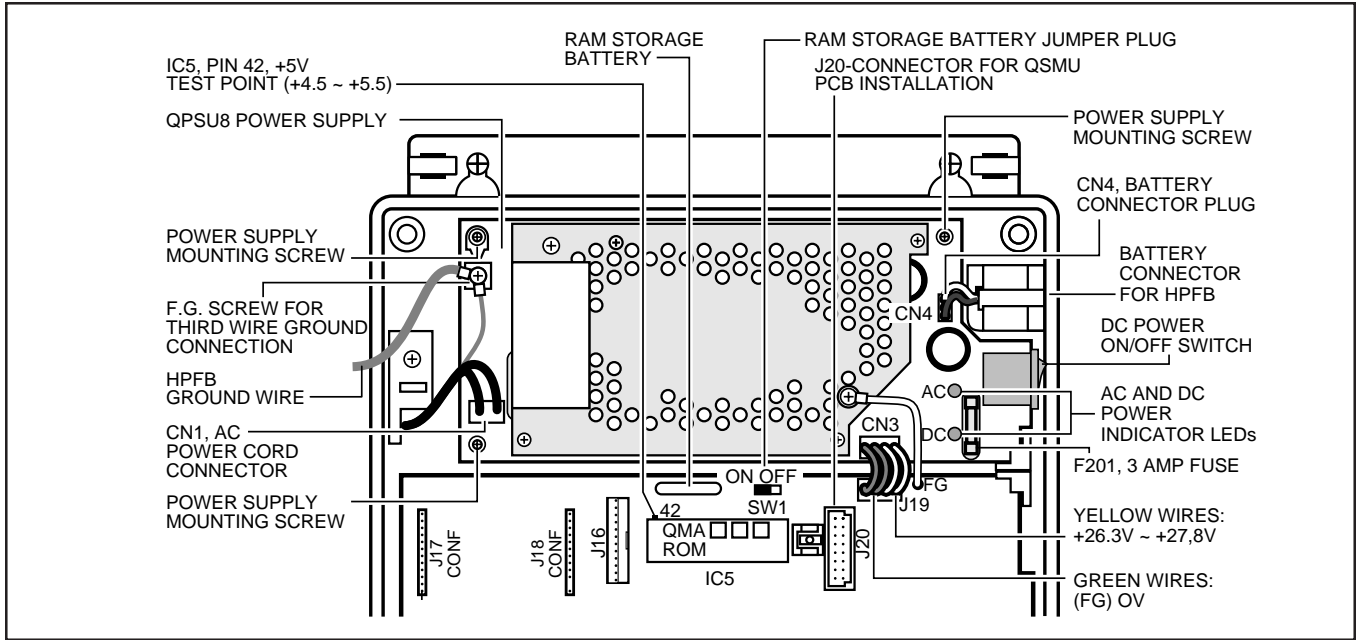

FIGURE 2
- 2) Unplug HPFB battery cable from BATT connector on QPSU8 Power Supply (see Figure 2).
- 4) Test power supply as follows (refer to Figure 2):
- c) Using the voltmeter, measure the voltages referenced to frame ground (FG) at the power supply connector CN3 pins (test points) and pin 42 of IC5 located on the motherboard (Figure 2). The voltages should fall within the ranges below. If the voltages do not fall within the range, unplug the DC power pins from power supply connector CN3 and measure +24V again at the same location; if the voltages remain unacceptable, replace the power supply (see Section 100-816-204).
- 2) Unplug the PBTC battery cable from BATT connector on KPSU16 Power Supply (see Figure 2).
Using a voltmeter or other device which checks voltage, measure the voltages referenced to frame ground (FG) at the DC OUT connector pins (test points) located on the motherboard (Figure 2). The voltages should fall within the ranges below. If the voltages do not fall within the ranges, unplug the DC power pins from the DC OUT connector and measure again at the same location; if the ranges remain unacceptable, replace the Power Supply.
- (FG) Yellow-Green Wire: 0V